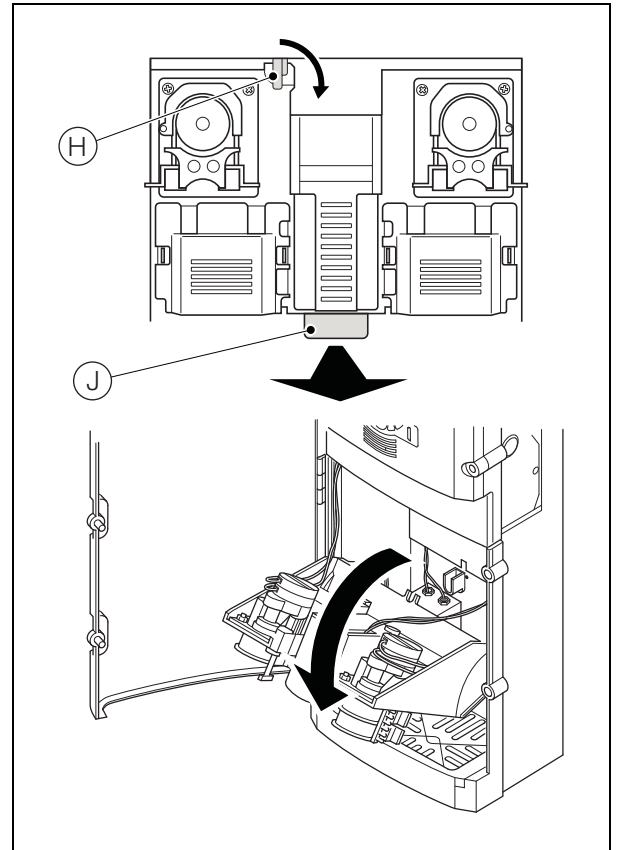

Fig. 4.4 Opening the Analytical Section
5. Referring to Fig. 4.4:
- a. Unlock catch (H) and pull the analytical section forward using handle (J).